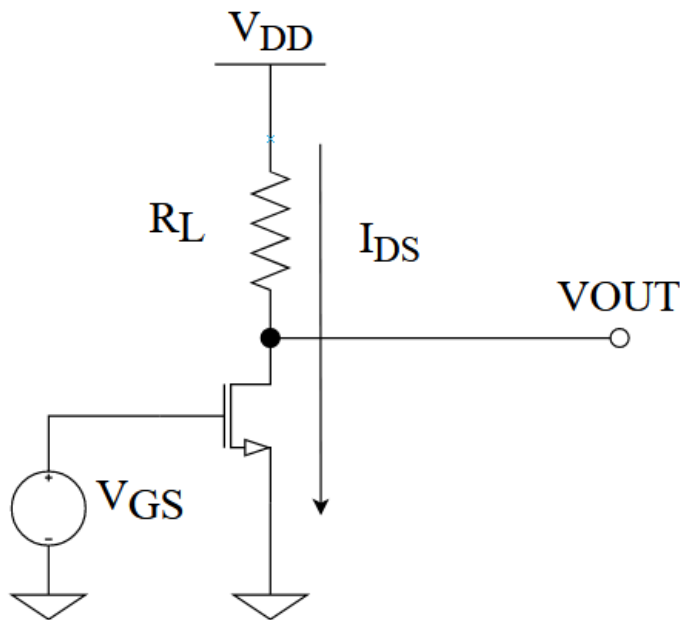
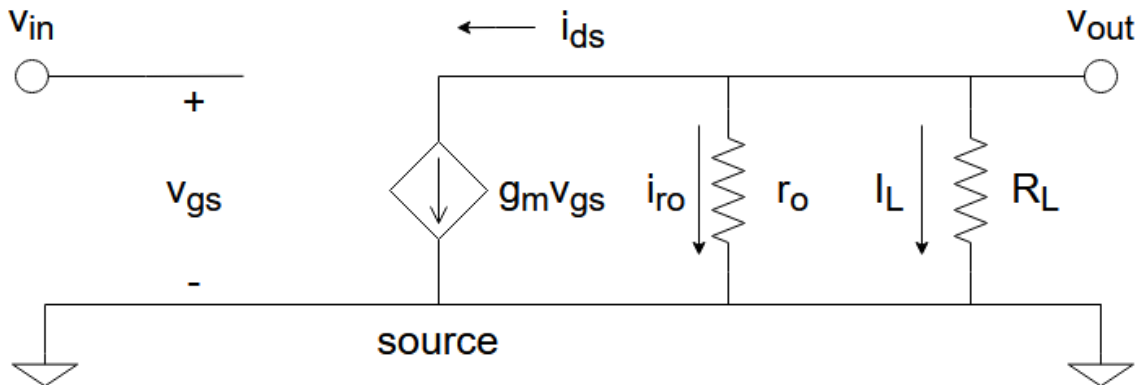

Figure 2.1 Common-source amplifier with drain node KCL
Figure 2.2 Small-signal model for the CS amplifier in Figure 2.1
Analog design always begins with the simple common source (CS) amplifier. Learning the tricks on how to conveniently analyze CS amplifiers can carry over to other types of amplifiers. Sometimes, we need to accept and appreciate how it works first, then the intuition becomes second nature to us. Consider Figure 2.1 which shows a simple common source amplifier with a resistive load.
R_L is a resistive load because the task of the NMOS transistor is to drive a current on that load. Regardless of how the transistor is configured, we always ask ourselves “Where does the current of the transistor go?”. Alternatively, we can also ask “What is the critical KCL node?”. We’ll see this kind of analysis in the succeeding labs. In Figure 2.1, the critical node would be the drain node. The KCL on the drain node is trivial:
From the above equation, it is evident that as I_{DS} increases, the output decreases. This should be clear even when we look at Figure 2.1. When I_{DS} increases, then the voltage drop across the resistor increases. Therefore, by KVL, V_{OUT} decreases. Recall from the previous lab that the gain is defined as $\frac{\partial V_{OUT}}{\partial V_{IN}}$ and if we apply this to the above equation, we get:
You might be wondering, where does the r_o factor kick in? From the previous lab, we know that the reciprocal of the output impedance describes the rate of change in the output current I_{DS} when V_{DS} is changing: $\frac{1}{r_o} = \frac{\partial I_{DS}}{\partial V_{DS}}$. This is known as the *output transconductance* ($g_{ds} = \frac{1}{r_o}$). Looking at Figure 2.1, we know that $V_{DS} = V_{OUT}$ and since V_{OUT} changes (becomes more negative but not decreasing) with increasing I_{DS} (increasing V_{IN}), then the effects of changing V_{DS} (because of changing V_{OUT}) affects the current. Observe: increasing V_{IN} , increases I_{DS} , and therefore manipulates $V_{DS} = V_{OUT}$. This change in V_{DS} also affects I_{DS} caused by the output transconductance and in turn limits how much of the real change in current affects the load R_L . *To put it simply, the change in I_{DS} is being shared between r_o and R_L .* Take time to internalize this paragraph.
Another perspective is to look at Figure 2.2 which shows the small-signal model for the CS amplifier in Figure 2.1. You should know how to recreate this circuit model from your lecture. Deriving the gain A_v is straight forward, first do a KCL on the drain node (v_{out} node):
Using Figure 2.2 can you visually describe what happens when $r_o \gg R_L$, where does i_{ds} go and how does this translate to $A_v = -g_m R_L$? Explain thoroughly.